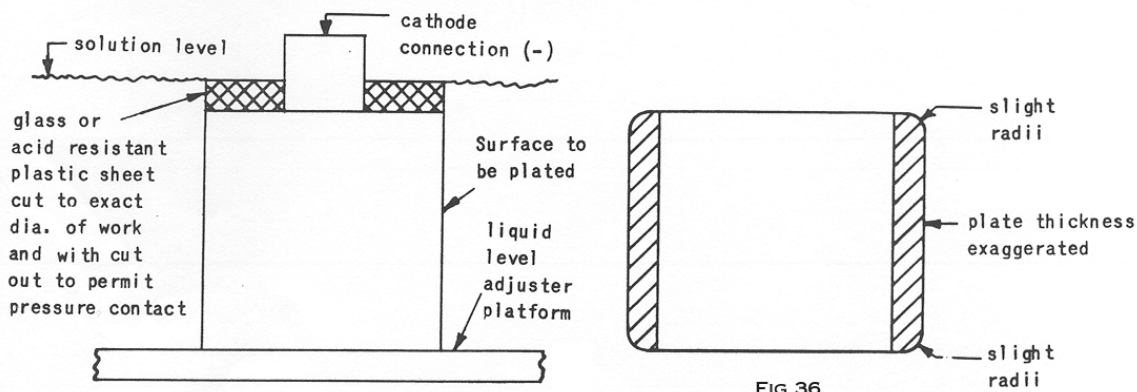

FIG 36
*Rounded Edge*                      *Figure 36*